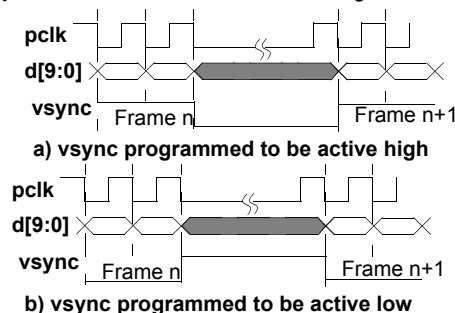

Figure 46. *vsync* in Level Mode
- **Level mode** should be used when the pixel clock, *pclk*, is programmed to operate in *free running mode*. In level mode the *vsync* output pin will go to the specified level (high or low) at the start of each frame and remain at that level until the last pixel of the last row in the frame is placed on *d[9:0]* as shown in Figure 46. The *vsync* level is always synchronized to the active edge of *pclk*. The *vsync* pin is put into level mode by setting the *VsyncMode* bit of the *DVBUSCONFIG1* register to a logic 0. The active level of the *vsync* is programmed using the *VsyncPol* bit of the *DVBUSCONFIG1* register.